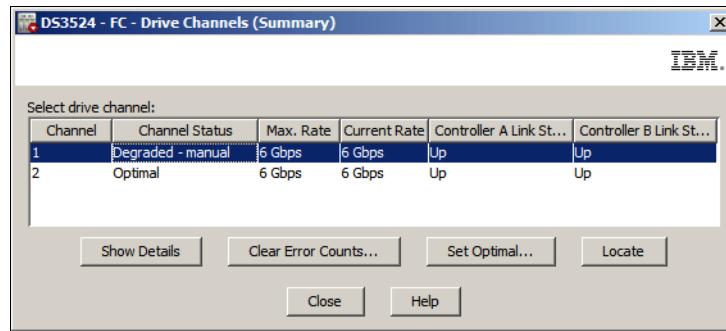

Figure 14-118 Drive Channel 1 in Degraded status
- If the status of either of the two Drive Channels is Degraded, the Summary view reports the status as shown in Figure 14-118 on page 405. To set the Drive Channel to the *Optimal* status, select the Drive Channel in the Summary view and click the **Set Optimal** button. You will be asked to confirm that you want to perform this operation, Click **Yes** to continue.